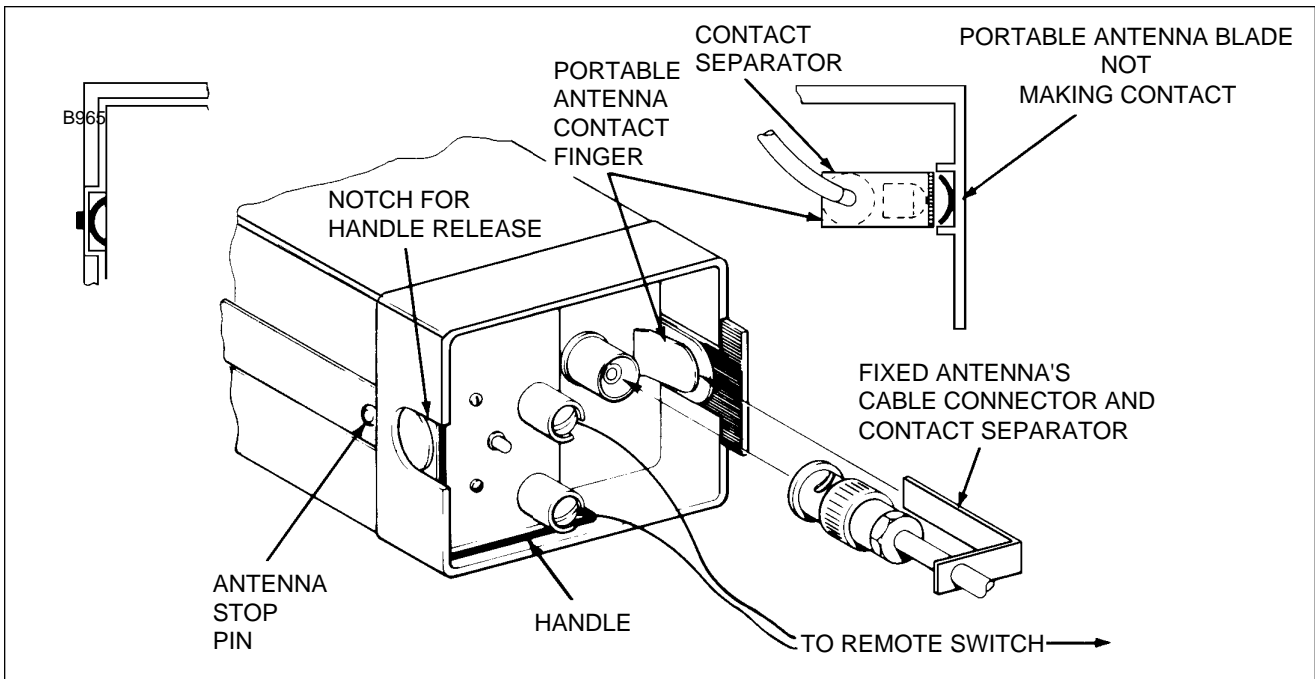

Figure 23-3. ELT 10 Using Fixed Aircraft Antenna (Narco)
13. Connect the antenna coaxial cable to the ELT and ensure that the contact separator is inserted between the antenna contact finger and the portable antenna. (Refer to Figure 23-3.)